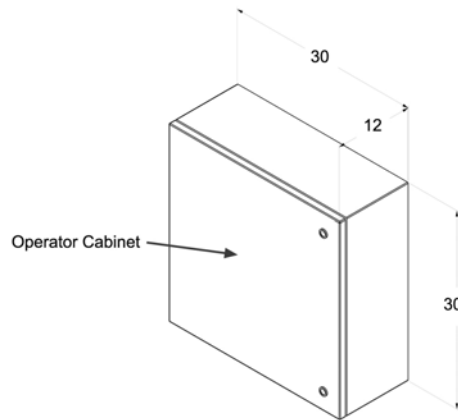

FIGURE 5.1
*The Operator Cabinet's dimensions and mounting holes are shown on Figure. 5.1*